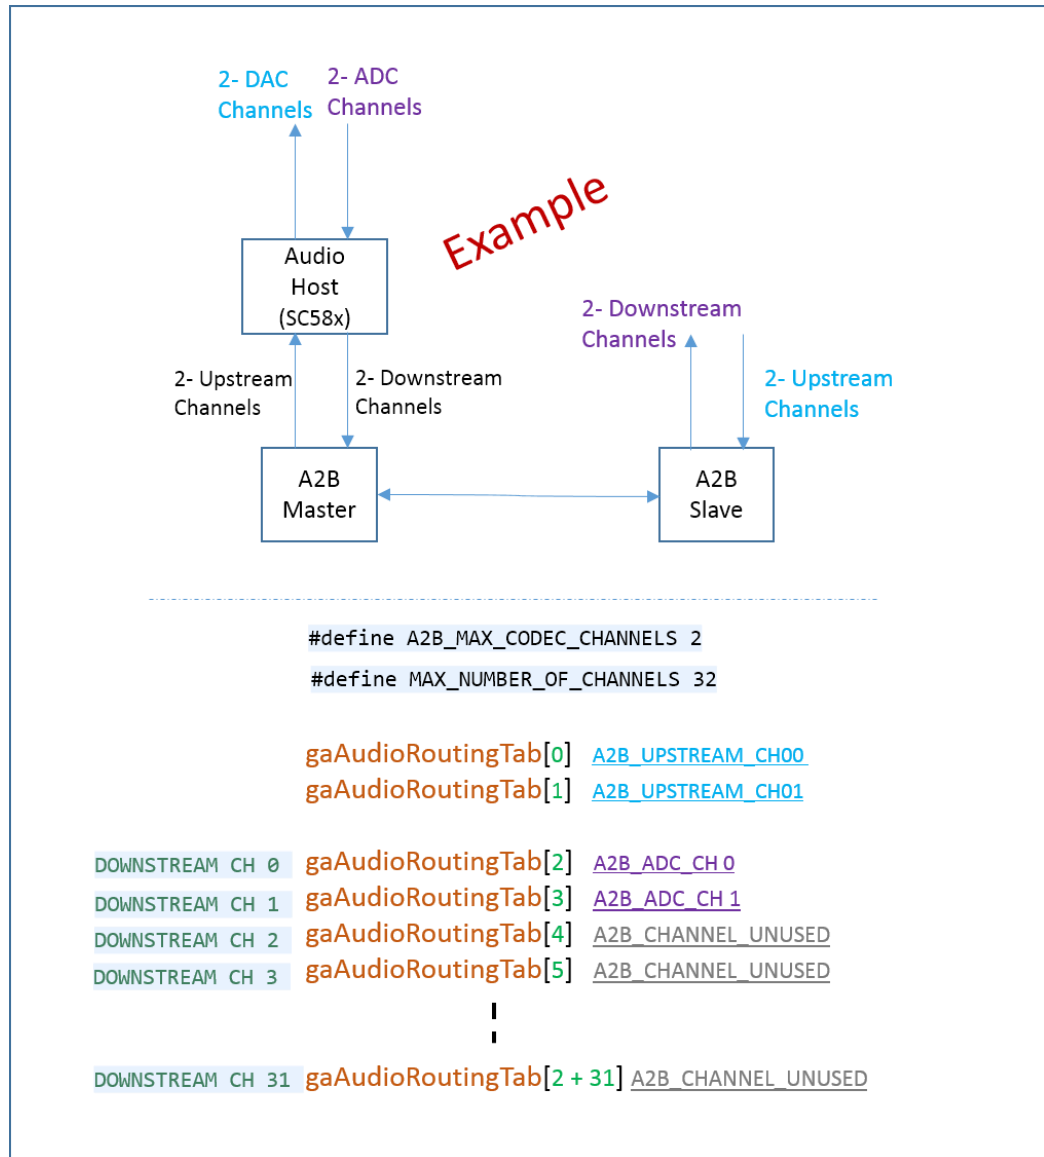

Figure 22: Audio Routing with ADSP-SC584 as Host
- 3 The demo audio configuration and corresponding example audio routing table is as shown in Figure 22. To customize modify the routing against each downstream channel (fixed position).